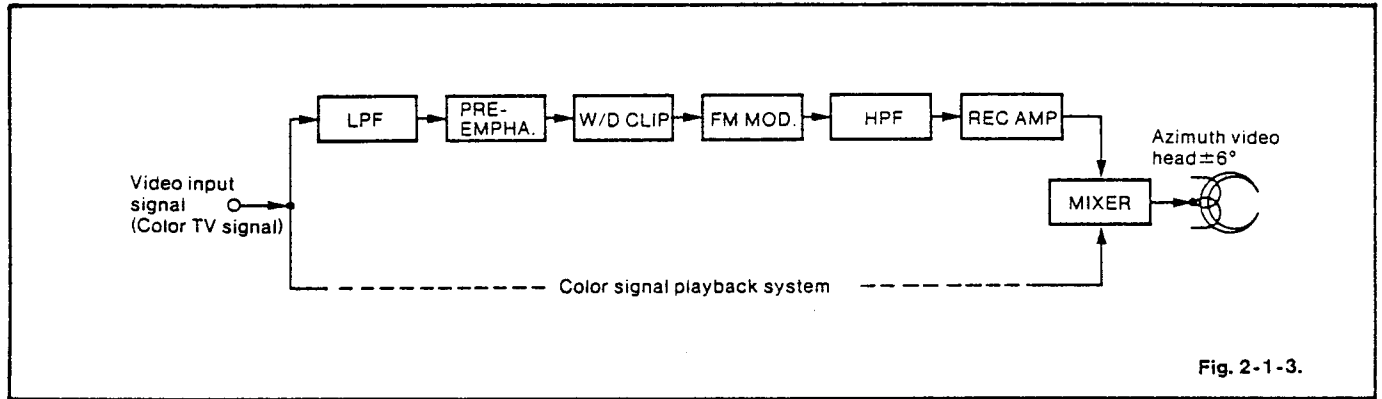

Fig. 2-1-3.
Frequency modulation (FM) is used for the luminance signal recording system. A simplified block diagram of the system is shown in Fig. 2-1-3.